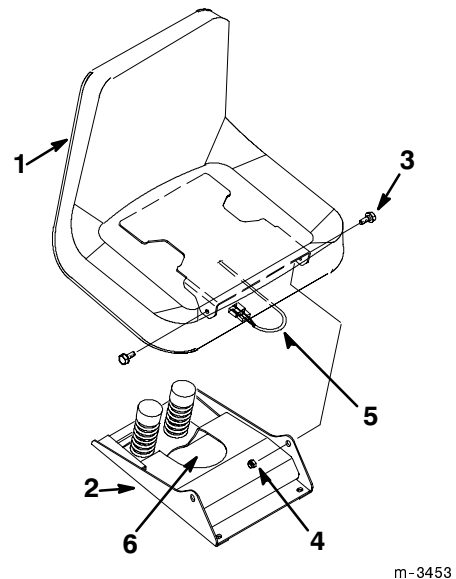

Figure 9
1. Mount the seat to the seat base using two 5/16" shoulder bolts and lock nuts (Fig. 9).
2. Insert the seat switch wire through the center opening in the seat base (Fig 9).